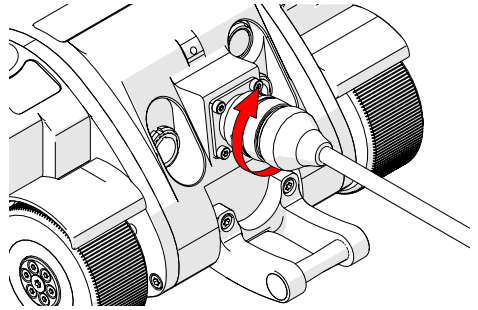

Fig. 89 - Press and rotate to seat pins of umbilical
2. Rotate the umbilical until the umbilical becomes seated in the pins of the umbilical connection (*Fig. 89*).